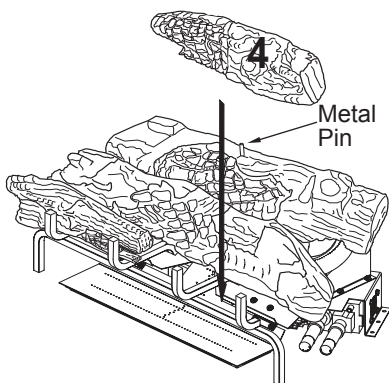

Figure 38- Installing Log # 4
4. Place the front right log (#4) onto the base assembly between the middle log and the grate. The back of the front right log will rest against the front of the middle log. The notch in the end of the front right log will fit around the grate bar. See Figure 38.